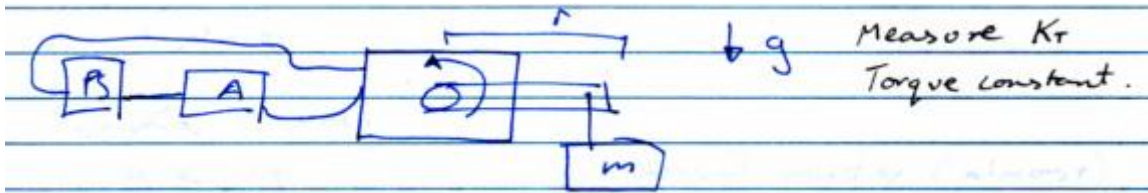

Figure 3
5. Supply a known voltage (9V) to the motors with an ammeter in series as shown in Figure 3